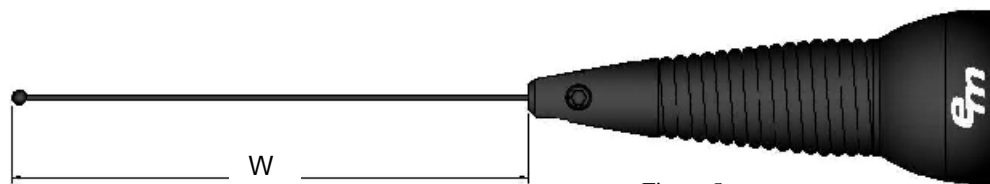

Figure 5
- Note:** The tuned length "W" is determined by measuring the distance between the top of the whip adapter and the top of the whip. **See Figure 5.** Tuned dimension "W" does not specify the total length of the whip when detached from the whip adapter. Total length of whip is approximately 1.5" (38mm) longer than "W" and must be added to the tuned dimension "W", when cutting the whip.
- Cut the whip length required to establish the specified tuning length "W" as shown in Figure 5.